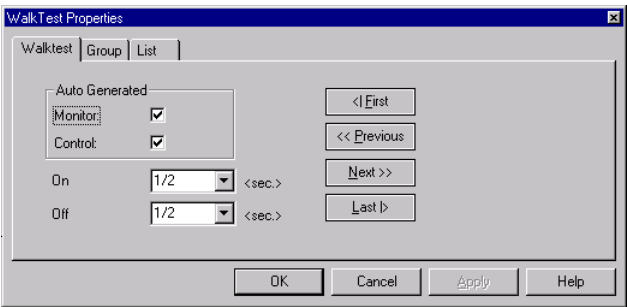

Figure 8-11. WalkTest Group Properties
- 2. Double click on one of the WalkTest groups to view its properties window. (Alternatively, you can right click on the group and select Properties from the menu that appears.) A screen similar to the one shown in Figure 8-11 appears.